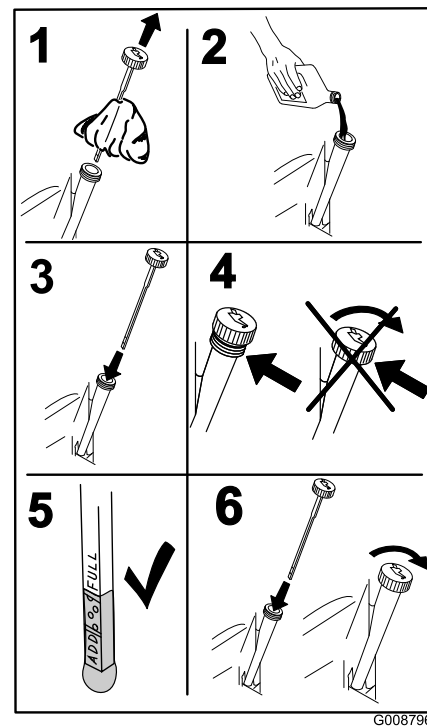

Figure 42
5. Slowly pour approximately 80% of the specified oil into the filler tube and slowly add the additional oil to bring it to the **Full** mark (Figure 42).